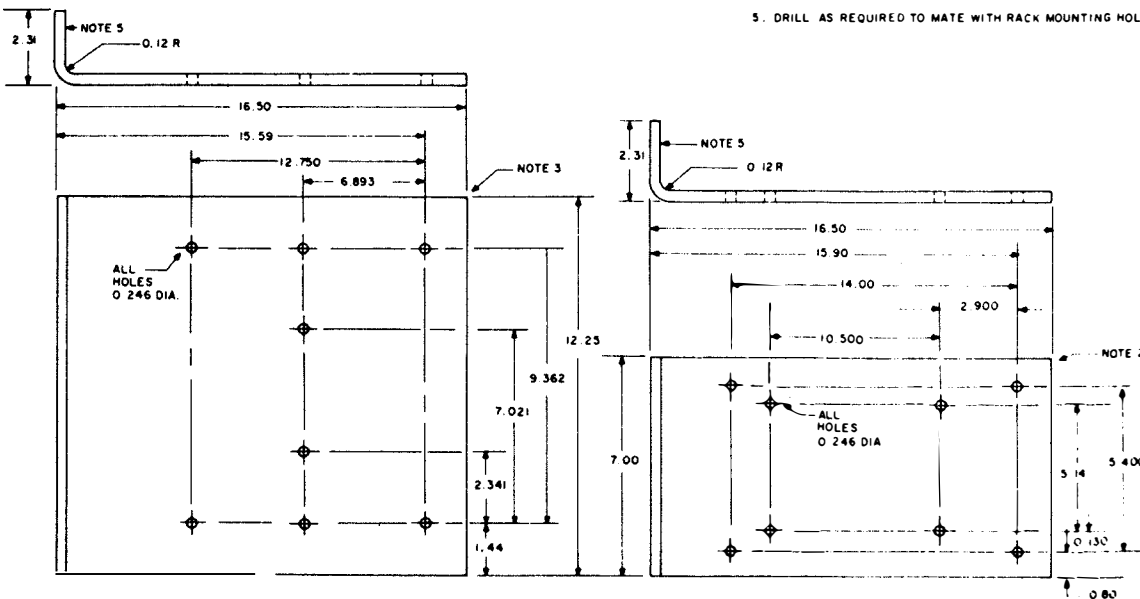

Figure 2-2. Rack Mounting Bracket Fabrication Details
2-19. The units can be rack mounted. To accomplish this, rack mounting brackets must be fabricated. Figure 2-2 provides all information required to fabricate the rack mounting brackets for shore installations. For shipboard installations refer to proper Installation Control Drawings. To install the equipment in rack, proceed as follows:
- a. Remove the AN/URT-23(V) from the shipping container.
- d. For shore installations, use the information contained in figure 2-2 to fabricate rack mounting brackets for each unit. For shipboard installations, use information contained in Installation Control Drawings.